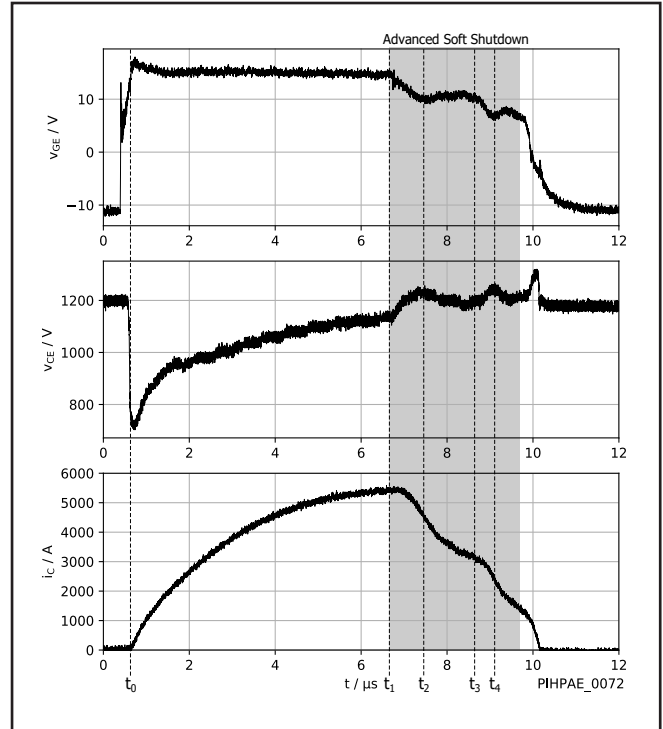

Figure 3. Example waveform of Advanced Soft Shut Down (ASSD)
In the event of a short-circuit condition, the gate voltage is increased due to the high  $dv_{CE}/dt$  between the collector and emitter terminals of the driven power semiconductor. This  $dv_{CE}/dt$  drives a current through the Miller-capacitance (capacitance between the gate and collector) and charges the gate capacitance, which eventually leads to a gate-emitter voltage larger than the nominal gate-emitter turn-on voltage. In consequence, the short-circuit current is increased due to the transconductance of the power semiconductor. To ensure that the gate-emitter voltage stays close to the nominal turn-on voltage each MAG features a gate-clamping circuitry. The gate clamping provides a voltage similar to  $V_{VISO}$  to the gate, i.e. 15 V. As the effective short-circuit current is a function of the gate-emitter voltage the short-circuit current is limited. This is shown in Figure 3 in the time period from 0.5 $\mu$ s to 6.2 $\mu$ s, where the short-circuit current asymptotically increases toward a flat plateau. As a consequence, the energy dissipated in the power semiconductor during the short-circuit event is reduced, leading to a junction temperature within the short-circuit safe operating area (SCSOA) limits and enabling a safe turn-off of the device.
- In the first step, the gate-emitter voltage is decreased to a defined level which is controlled by the closed-loop feedback (Figure 3, from  $t_1$  to  $t_2$ ).
- The defined level of the gate-emitter voltage is kept steady to ramp down the collector current smoothly, i.e. with lower  $di/dt$ , until the gate charge profile of the power semiconductor has reached the end of the Miller plateau. The end of the Miller plateau is detected by evaluating the gate current (Figure 3, from  $t_2$  to  $t_3$ ).
- The gate-emitter voltage is then reduced to its end value, following a given reference value (Figure 3, from  $t_3$  to  $t_4$ ).